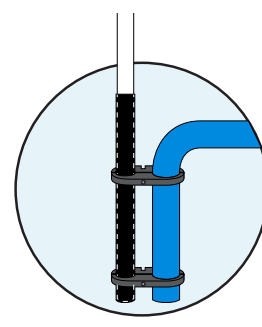

Fig 14.
13. Mount the pole into the ground socket ensuring the pole reaches the bottom of the ground socket. (Fig 14)